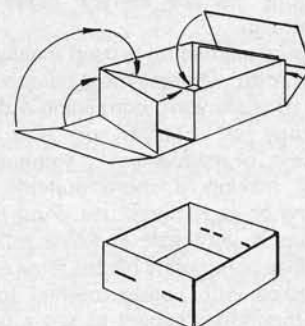

Fig 5
1. Mark out your material in accordance with the drawing (in this case Figure 5).